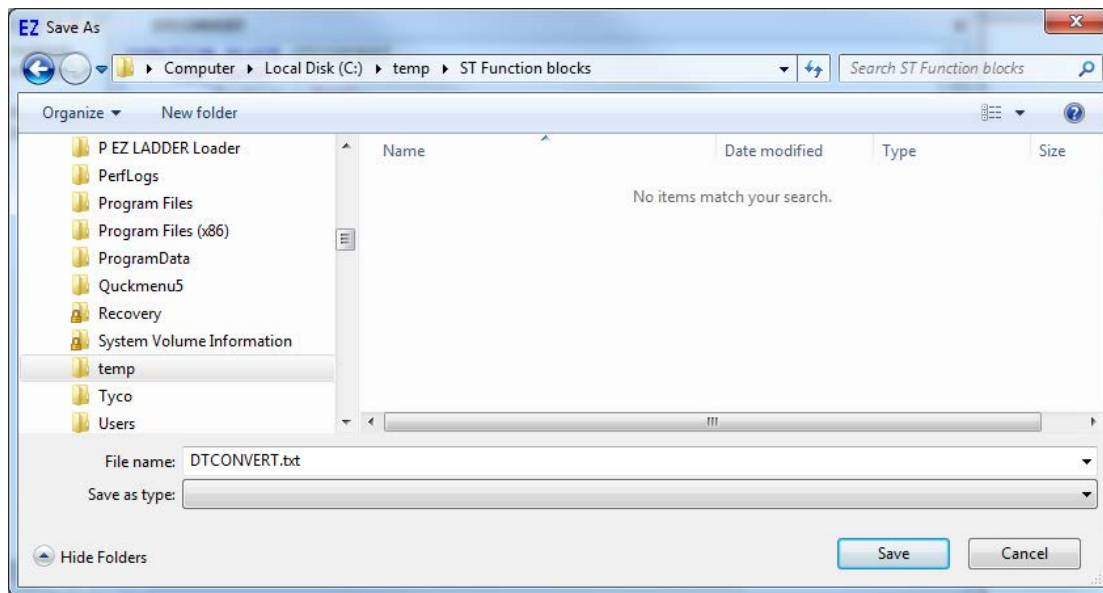

Figure 26-27
4. Double-click the selected function / function block to open the function / function block source code. Use the **File...Export** menu to export the currently opened function/function block. The function / function block will be stored as a text (.txt) file. Using the Save As window, locate the location to save the file and enter a name of the file. Click the **SAVE** button. Refer to Figure 26-27. The structured text function / function block source code is now saved as a text (.txt) file.